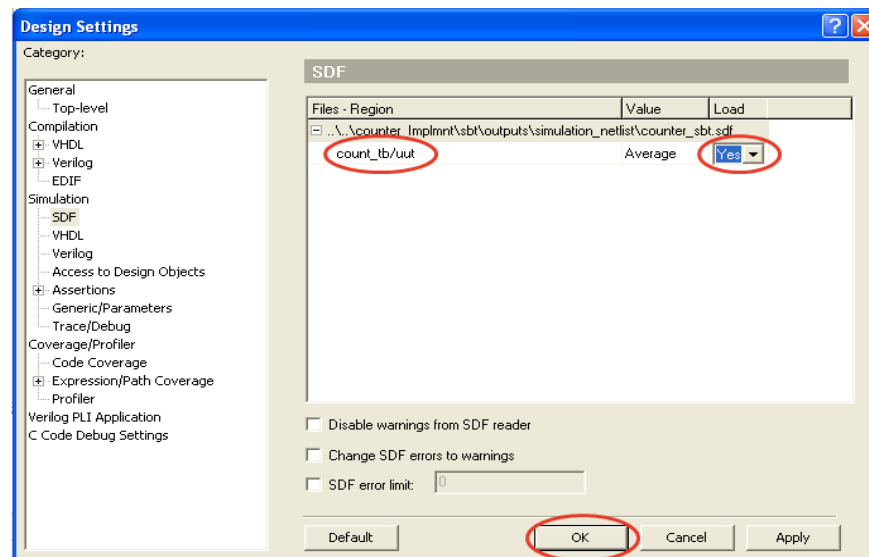

Figure 10-20 : Set SDF Options.
8. Select Design→Settings to open up the “Design Settings” Wizard. Select SDF in the category panel. Set the Region to “count_tb/uut” and change the Load option to “Yes” as shown in Figure 10-20. The SDF value selection can be set to “Minimal”, “Average” and “Maximal”. The value is set to “Average” by default. Click on “OK” icon to close the wizard.